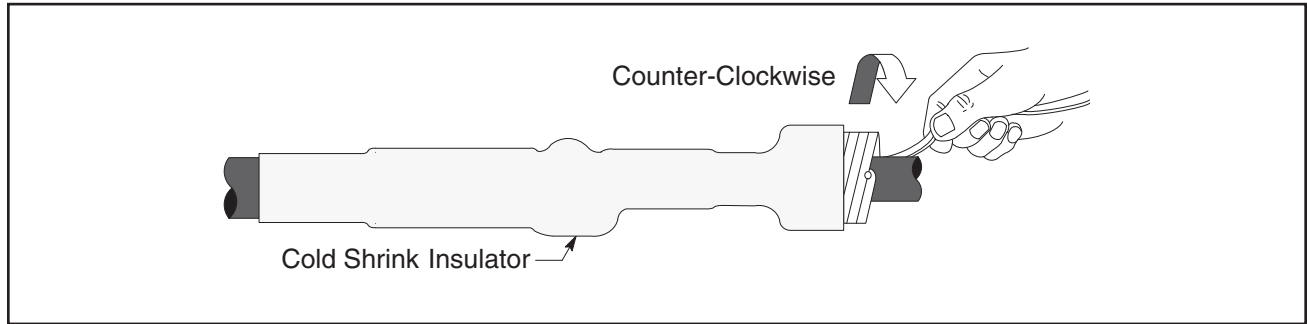

Figure 6
4.1 Center Cold Shrink insulator over connected lugs and remove core by unwinding counter-clockwise (*Figure 6*).